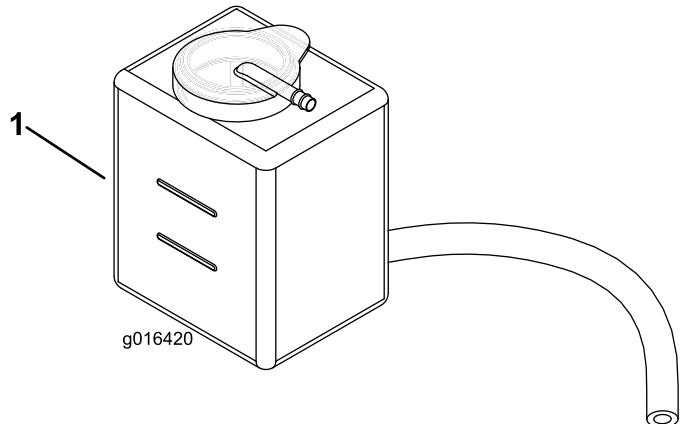

Figure 26
- Check the coolant level (Figure 26). It should be between the lines on the reserve tank when the engine is cold.